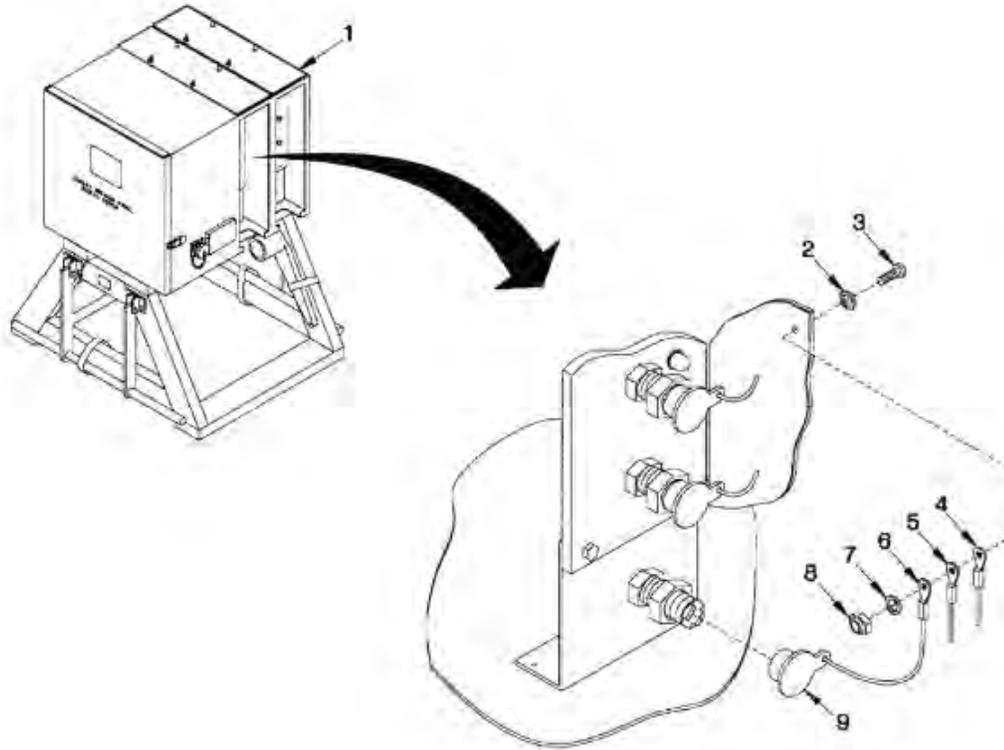

Figure 1. Terminal Post Safety Cap and Lanyard (3 Lanyard).
To remove and replace the terminal post safety caps and lanyards, refer to Figure 1 and perform the following procedure:
1. Open circuit breaker panel access cover (Figure 1, Item 1), (Circuit No.'s 1, 2 or 3). Secure it in open position.
2. Remove terminal post safety cap (Figure 1, Item 9) from terminal post by grasping and pulling off.
3. Remove 5 inch lanyard (Figure 1, Item 6), 7 inch lanyard (Figure 1, Item 5) or 10 inch lanyard (Figure 1, Item 4) from PDB by removing screw (Figure 1, Item 3), flat washer (Figure 1, Item 2), lock washer (Figure 1, Item 7) and locknut (Figure 1, Item 8). Retain hardware for installation of new lanyard.
4. To install a new safety cap (Figure 1, Item 9) and lanyard, position cap on terminal post and secure.
5. Secure 5 inch lanyard (Figure 1, Item 6), 7 inch lanyard (Figure 1, Item 5) or 10 inch lanyard (Figure 1, Item 4) from PDB by installing screw (Figure 1, Item 3), flat washer (Figure 1, Item 2), lock washer (Figure 1, Item 7) and locknut (Figure 1, Item 8).
6. Close side panel access cover (Figure 1, Item 1) and secure latch assemblies.